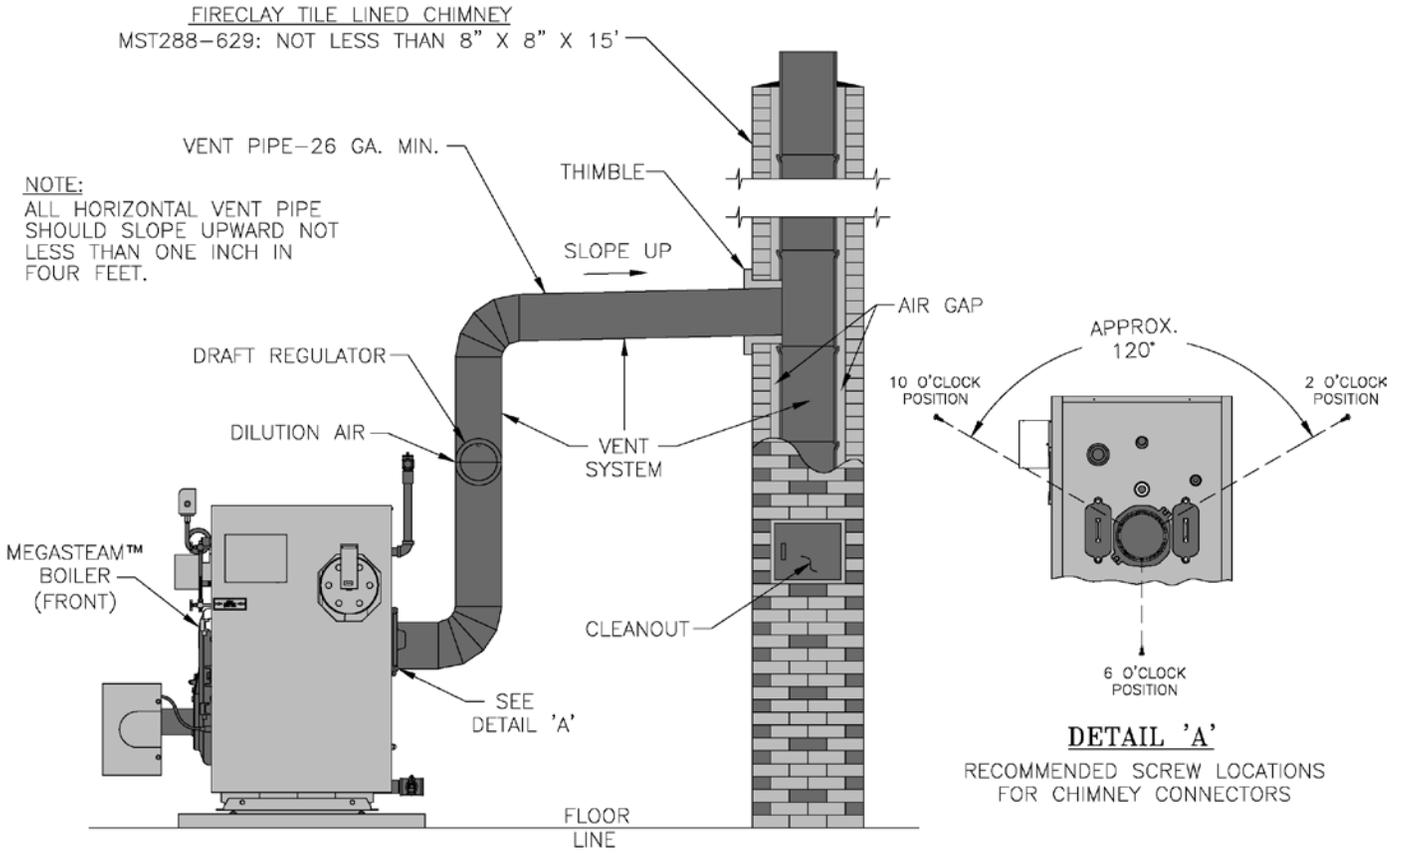

Figure 14: Recommended Vent Pipe Arrangement and Chimney Requirements
3. The MegaSteam™ can be vented into a fireclay tile-lined masonry chimney that meets requirements outlined in Paragraph 4 below. It can also be vented into a chimney constructed from type L vent or a factory built chimney that complies with the type HT requirements of UL 103. The chimney and vent pipe shall have a sufficient draft at all times, to assure safe proper operation of the boiler. See Figure 14 for recommended installation.
5. Draft Regulator – the draft regulator supplied with the boiler must be used with this appliance. No other draft regulator shall be used. Refer to Figures 14 and 15.
NOTE: Secure chimney connector to cast iron smokebox collar with three (3) #10 x 1/2" self drilling hex head TEK screws provided in appropriate Parts Carton. Locate screws around perimeter of connector as shown in Figure 14 and approximately 1/2" in from edge. Use drill with 5/16" hex bit to drive screws through connector and smokebox collar.